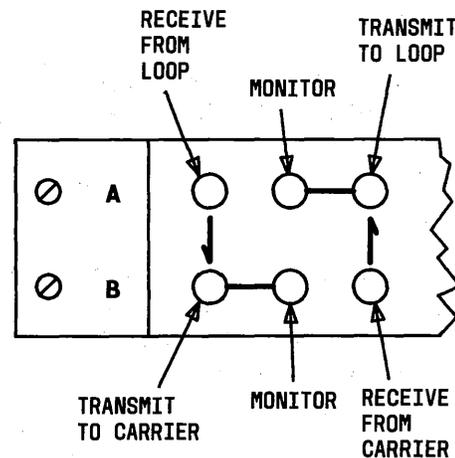

Fig. 2—Jack Strip in Wideband Service Bay
- (1) Terminate loop from carrier at WSB by inserting 386B terminating plugs (135 ohms) into transmit to carrier jack and into receive from carrier jack (Fig. 2).